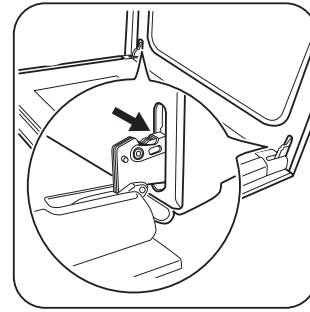

Figure 21: Door hinge location
1. Open the door fully, horizontal with the floor, and hold the two door hinges (Figure 21).
3. Fully open the oven door, horizontal with floor (Figure 21).